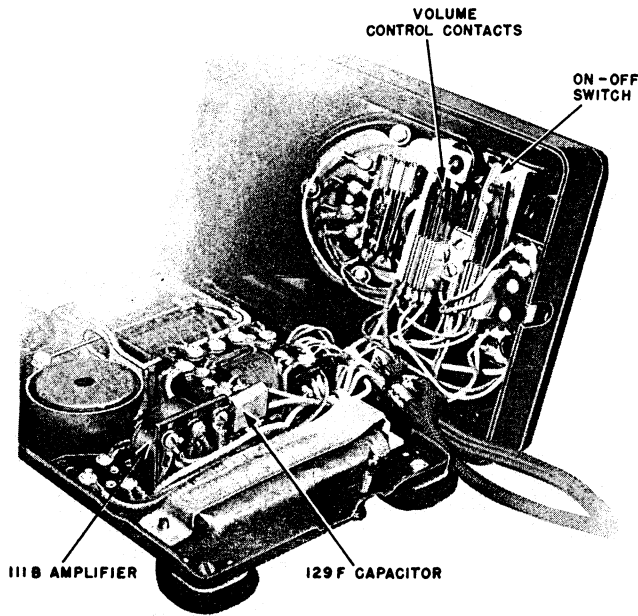

Fig. 3 - 111B Amplifier and 129F Capacitor
- Both sets are equipped with a 111B amplifier and a 129F capacitor (see Fig. 3).